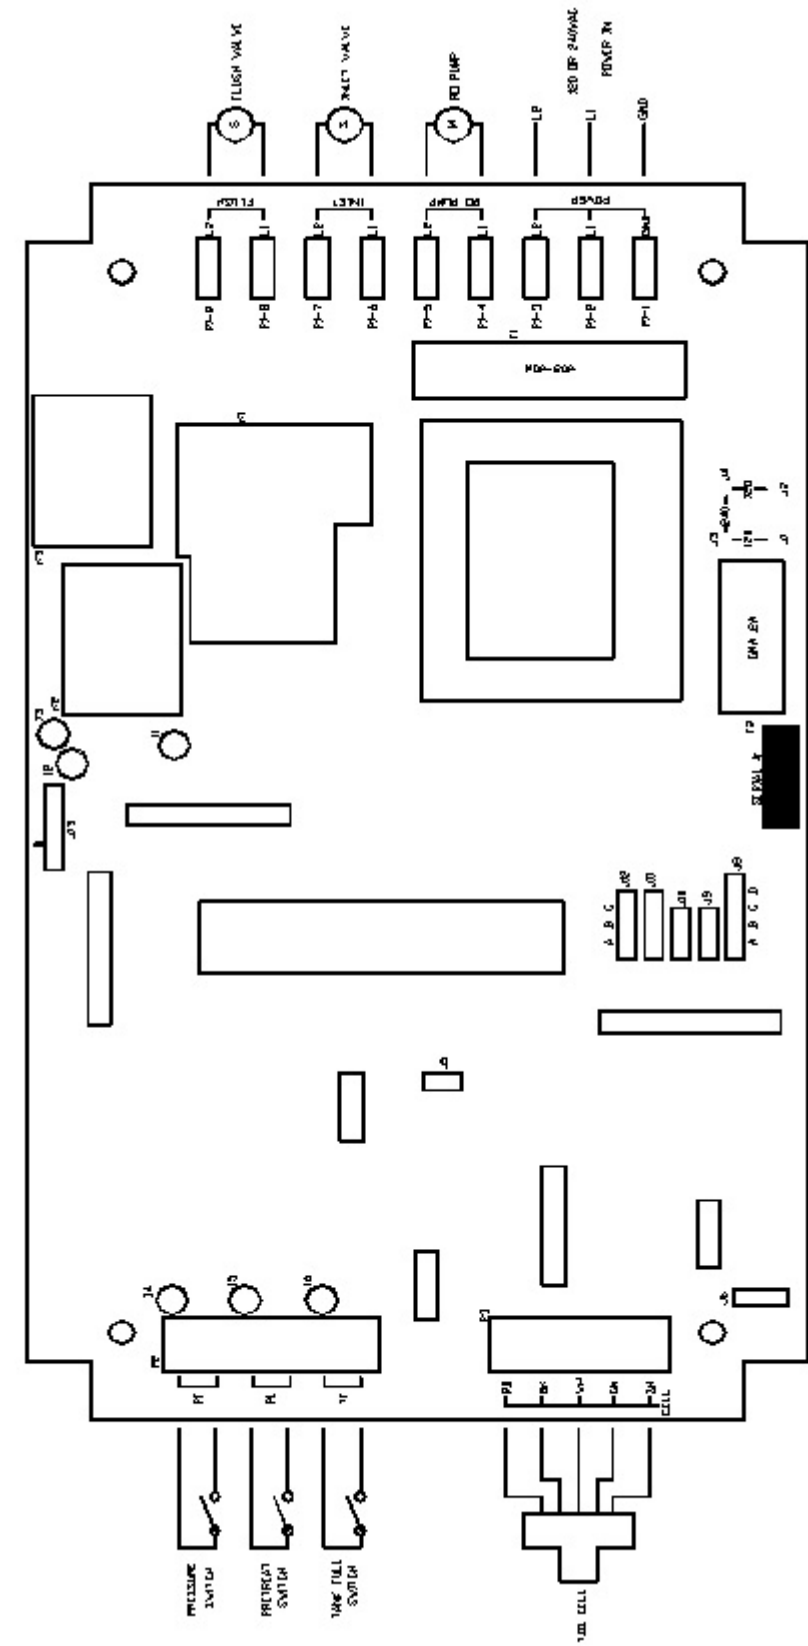

Figure 2
Refer to figure 2 for the location of all terminal strips, connectors and jumpers. Figure 2 also shows a sample wiring diagram for the controller. NOTE: All terminals on the board are labeled.
**CAUTION:** Hazardous voltages are present when power is applied to the controller. Pressing the Power key **DOES NOT** remove these voltages. The power must be disconnected from the power source. When connecting or disconnecting any wiring to the unit, be sure the power is turned off at the disconnect or breaker. Refer to figure 2 for the location of components. NOTE: If fuse F1 is blown, none of the outputs will operate. If fuse F2 is blown, the controller will be inoperative.